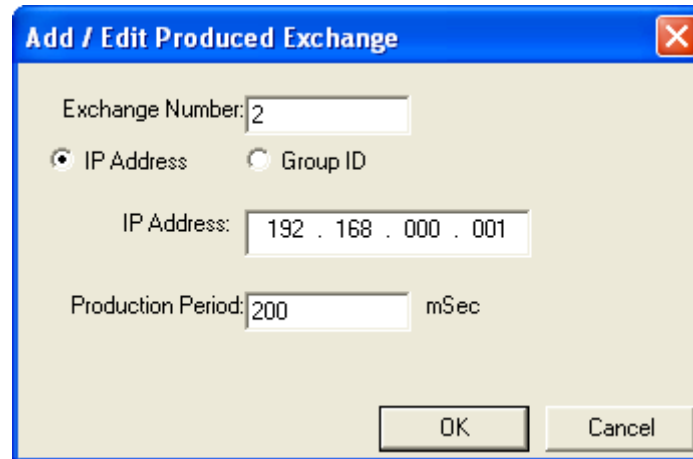

Figure 6.15 – Creating Produced Exchange 2 - Node 2
2. Click on the **Config** button next to the **EGD (Ethernet Global Data)** checkbox to open the Ethernet Global Data Configuration dialog (Figure 6.1 [page 32]) and click on the **Add Exch** button to create a Produced Exchange. Then, fill in the parameters for Node 2, as shown in Figure 6.15 below, and click **OK**.